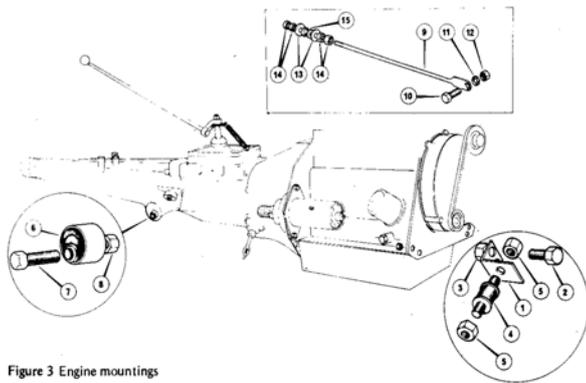

Figure 3 Engine mountings
5. Using special tool no. RT 7485 as a centraliser, or if this is not available an input shaft from a spare gearbox, replace the clutch disc and pressure plate assembly on to the flywheel, securing evenly with six set screws and lock washers to a torque of 1.66 to 2.07 kg/m (12 to 15 lb/ft) see **Figure 3**. The pressure plate assembly should be tapped with a hide mallet to ensure it is square on the flywheel.